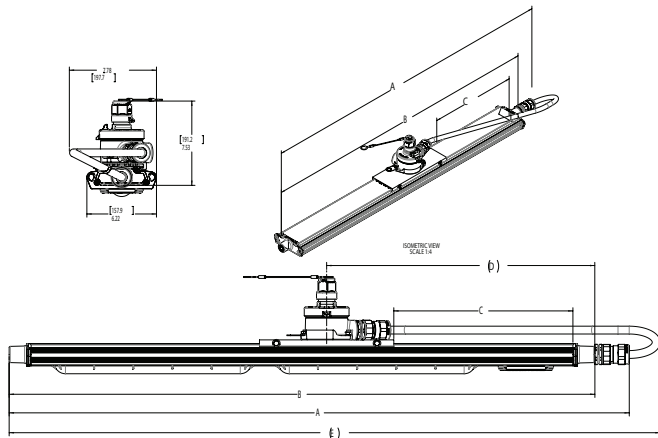

Figure 10
3. Install the slide mount bracket with junction box on the mounting flange of the fixture as shown in Figure 10. Adjust the position of the slide mount to dimension C shown in table. Note: dimension C is referenced to the end of the fixture mounting flange.
6. Install one (1) cable gland thread body to junction box and one (1) cable gland thread body to hub on driver end of fixture. Refer to CAP184288 and ADE 6FCable Fitting installation and cable preparation instructions.
7. Form the cable approximately as shown in Figure 10.